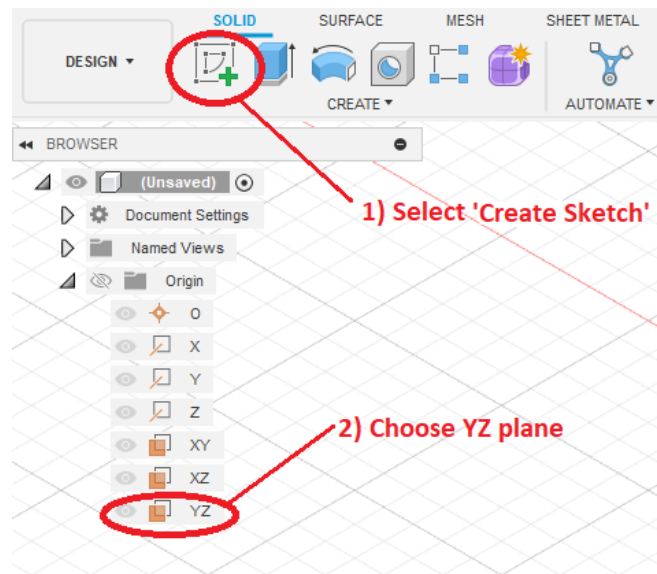

Fig. 1: Create Sketch
1. Select “Create Sketch” and later click “Origin” and select “YZ” plane as shown in Fig. 1. After selecting YZ plane, your design platform will be in the 2D YZ plane.